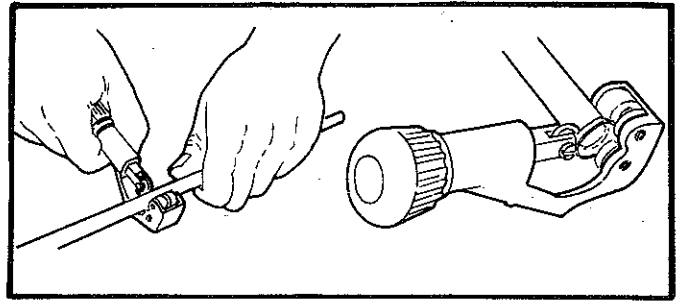

Fig. 3—Bundy tubing cutting tool
- (1) Using Tool E5C15 cut off damaged flare (Fig. 3).
- (2) Ream out any burred or rough edges showing on inside edges of tubing. This will make ends of tubing square and ensure better seating against the flaring tool plug.